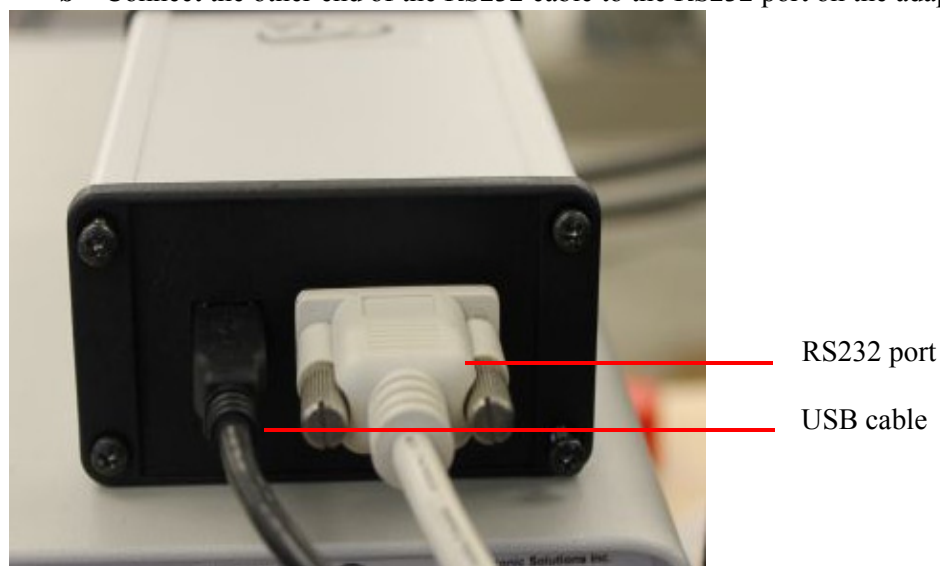
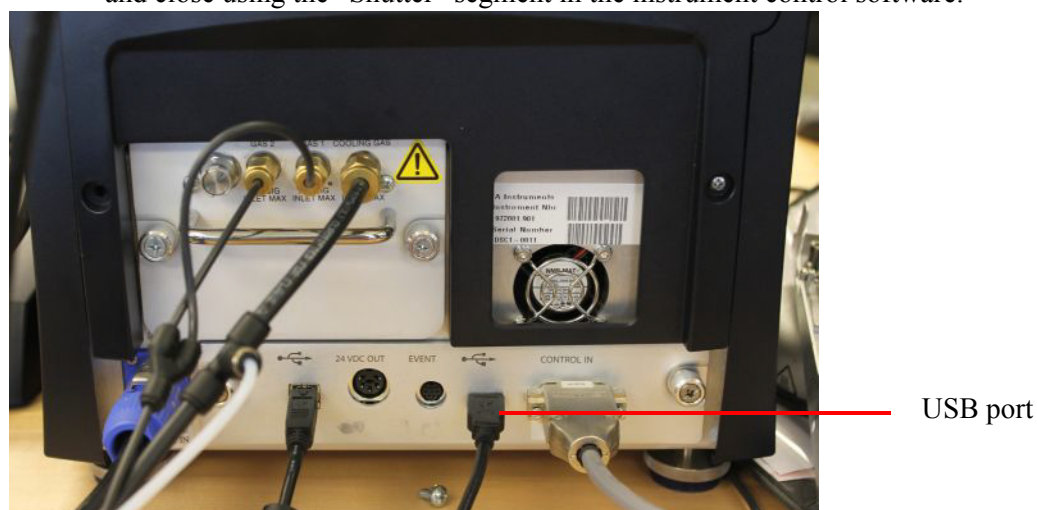

Figure 5 Back of adapter box.
Figure 6 Back of DSC.
- c** Connect one side of the USB cable to the adapter box (see Figure 5 above) and the other to the USB port on the back of the DSC (see Figure 6 below). This allows the PCA light source shutter to open and close using the “Shutter” segment in the instrument control software.